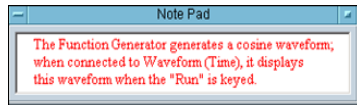

Figure 1-10 Note Pad with Text
- 1 Size your Note Pad. Move the mouse to the lower right-hand corner of the Note Pad object until a two-headed arrow appears. Depress the mouse left button and change the size of the Note Pad so that all typed words are displayed. See Figure 1-10.